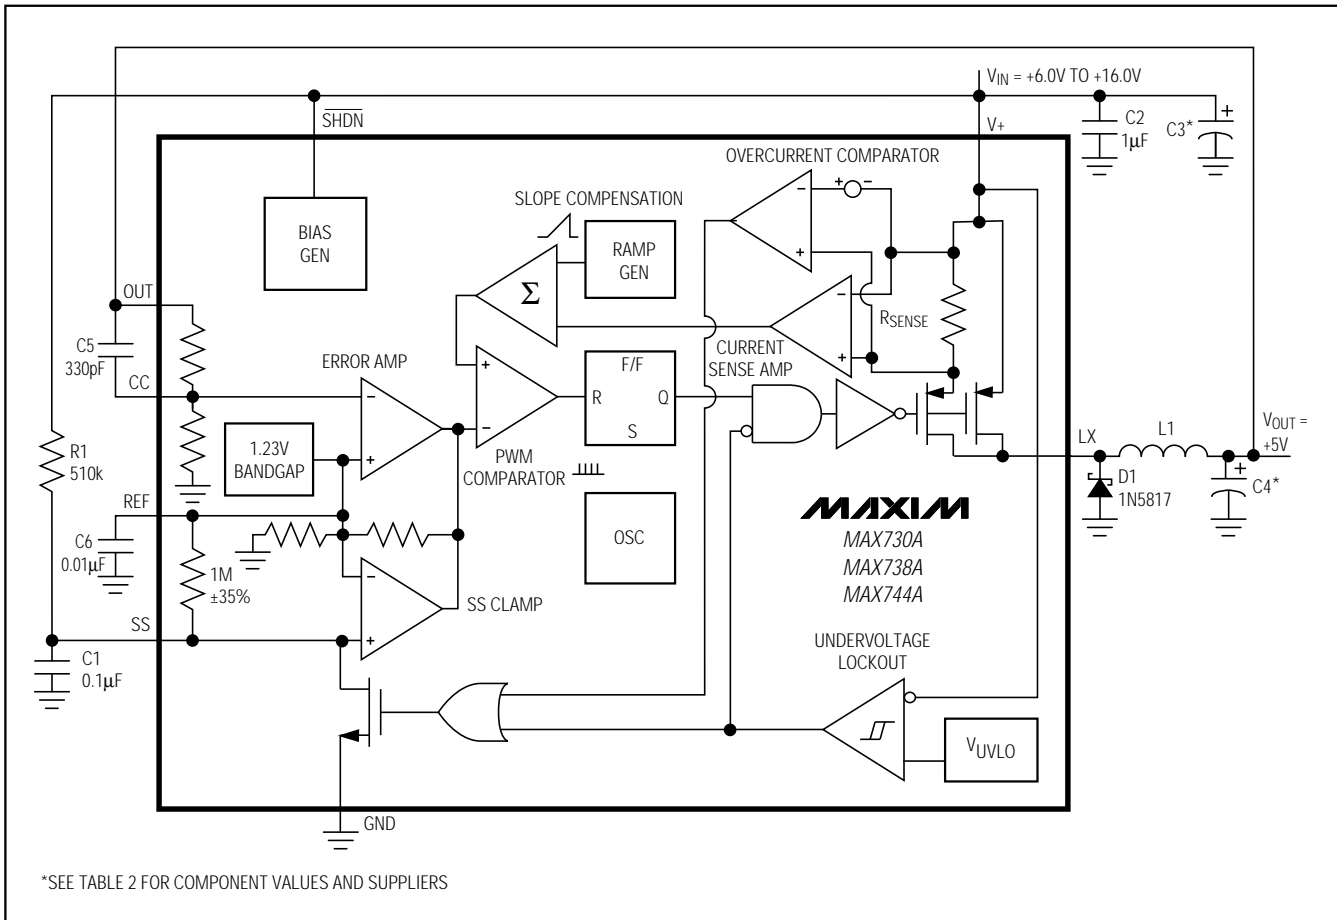

Figure 1. Detailed Block Diagram with External Components
The controller consists of two feedback loops: an inner (current) loop that monitors the switch current via the current-sense resistor and amplifier, and an outer (voltage) loop that monitors the output voltage through the error amplifier (Figure 1). The inner loop performs cycle-by-cycle current limiting, truncating the power transistor on-time when the switch current reaches a predetermined threshold. This threshold is determined by the outer loop. For example, a sagging output voltage produces an error signal that raises the threshold, allowing the circuit to store and transfer more energy during each cycle.
Figures 1 and 2 show a capacitor and a resistor connected to the soft-start (SS) pin to ensure an orderly power-up. Typical values are 0.1 $\mu$ F and 510k $\Omega$ . SS controls both the SS timing and the maximum output current that can be delivered while maintaining regulation.